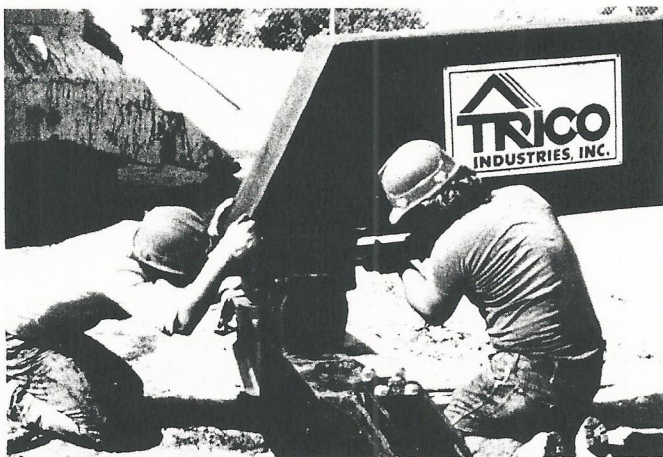

Figure 11 — Installing hinge pin.
4. Assemble equalizer to beam by setting beam on equalizer and inserting hinge pin (Fig. 11).